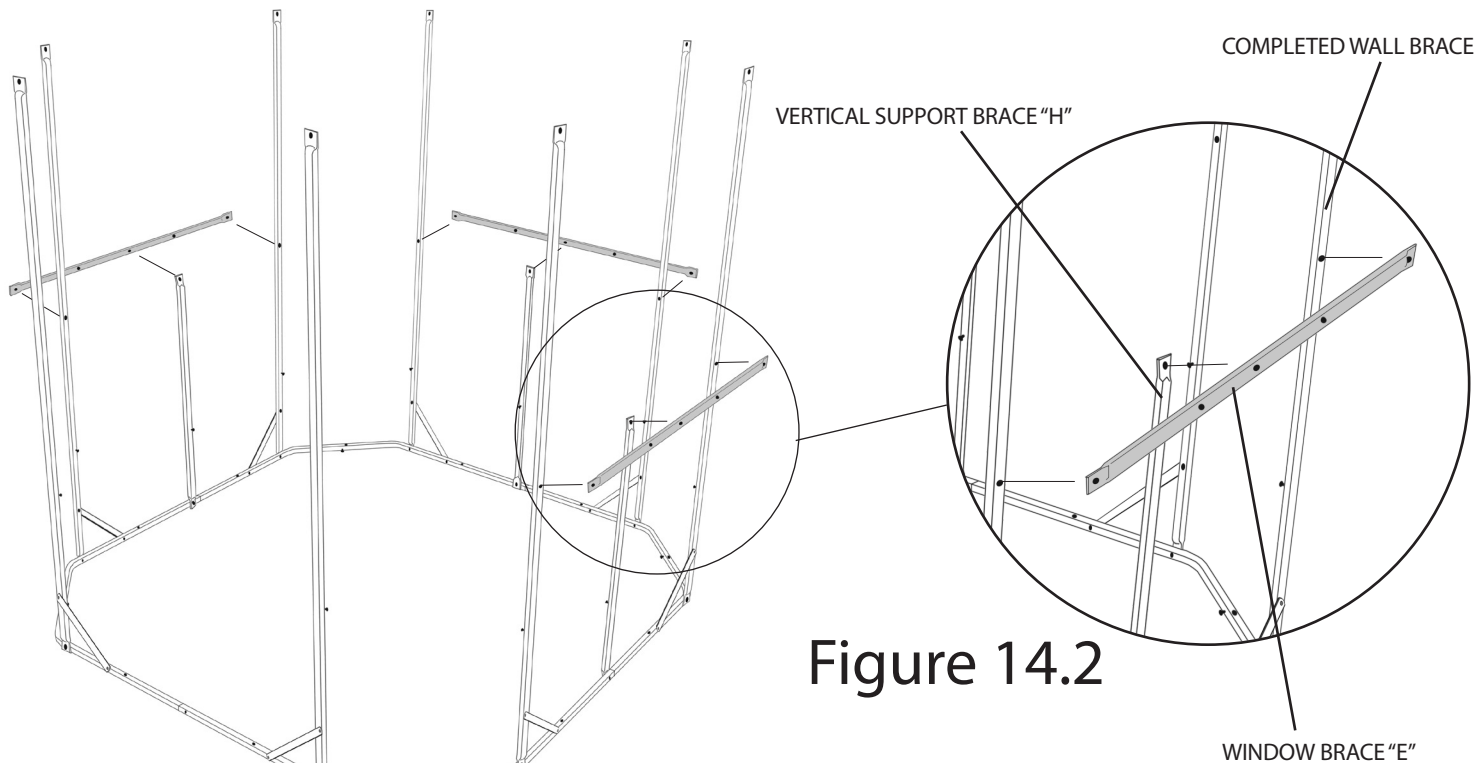

Figure 14.1
STEP 6: Locate (3) WINDOW BRACES "E". Using (9) 1-1/4" BOLTS & (9) NUTS fasten the (3) WINDOW BRACES "E" to the COMPLETED WALL BRACES & the VERTICAL SUPPORT BRACES "H", as illustrated in Figure 14.1 & 14.2
NOTE: The (3) HORIZONTAL WINDOW BRACES "E" will be installed on what would be the exterior of the blind, as illustrated in Figure 14.1 & 14.2.